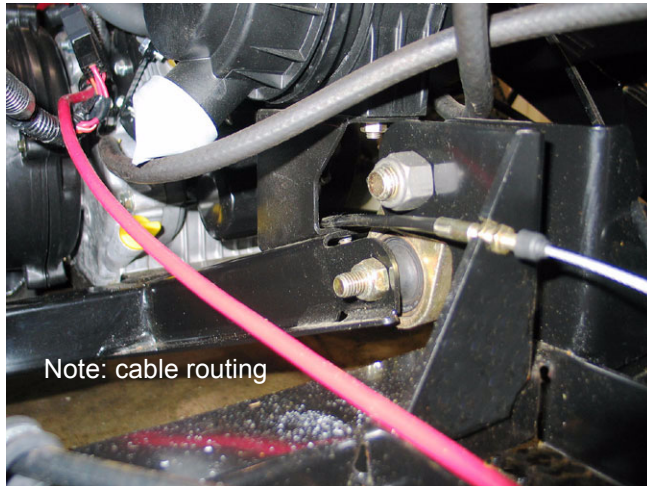

Figure 4.41
- 4.41. The cable is secured to a bracket near the front mounting point of the engine and transaxle cradle. See Figure 4.41.